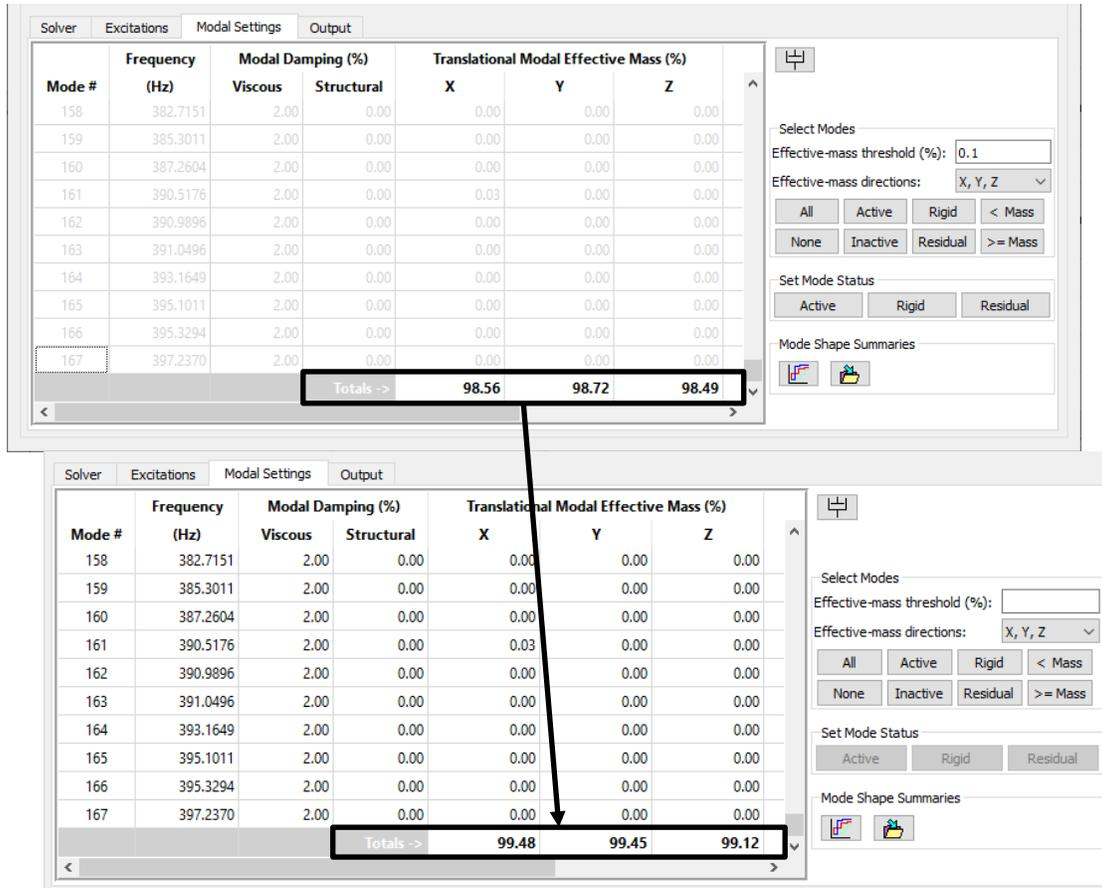

Figure 4-71. All but 46 of the 167 modes are turned off, but 98% of the effective mass remains.
3. With the low-mass modes selected, click the **Active** button in the *Set Mode Status* panel to deactivate the selected modes (Figure 4-71). This leaves only 46 of the 167 modes active, so the solver will compute responses at many fewer frequencies. Note, however, that we have deactivated less than 1% of the effective mass for any of the translations.